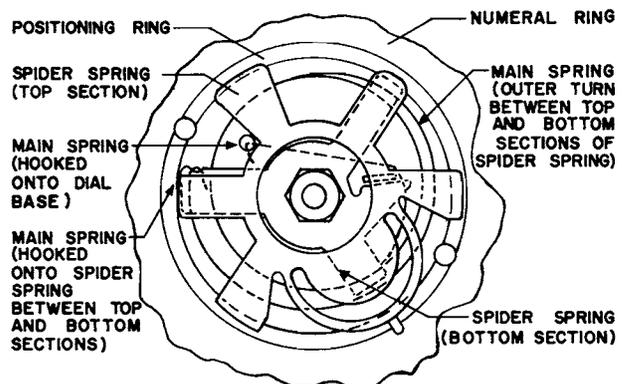

Fig. 4 MAIN SPRING, SPIDER SPRING AND POSITIONING RING LOCATION
- c: The spider spring is shaped so that a separate cam casting is not necessary. The main spring is hooked over the three tabs on the rim of the spider spring then the spider spring is rotated, to tension the main spring, and pressed over the flattened end of the main shaft. See Fig. 4; also paragraphs 3.3d and e of sub-section M2A-DLS/GEN.
- d: A positioning ring is fitted in the center of the reflector ring in order to locate the numeral ring correctly. The location of the positioning ring is indicated in Fig. 4.